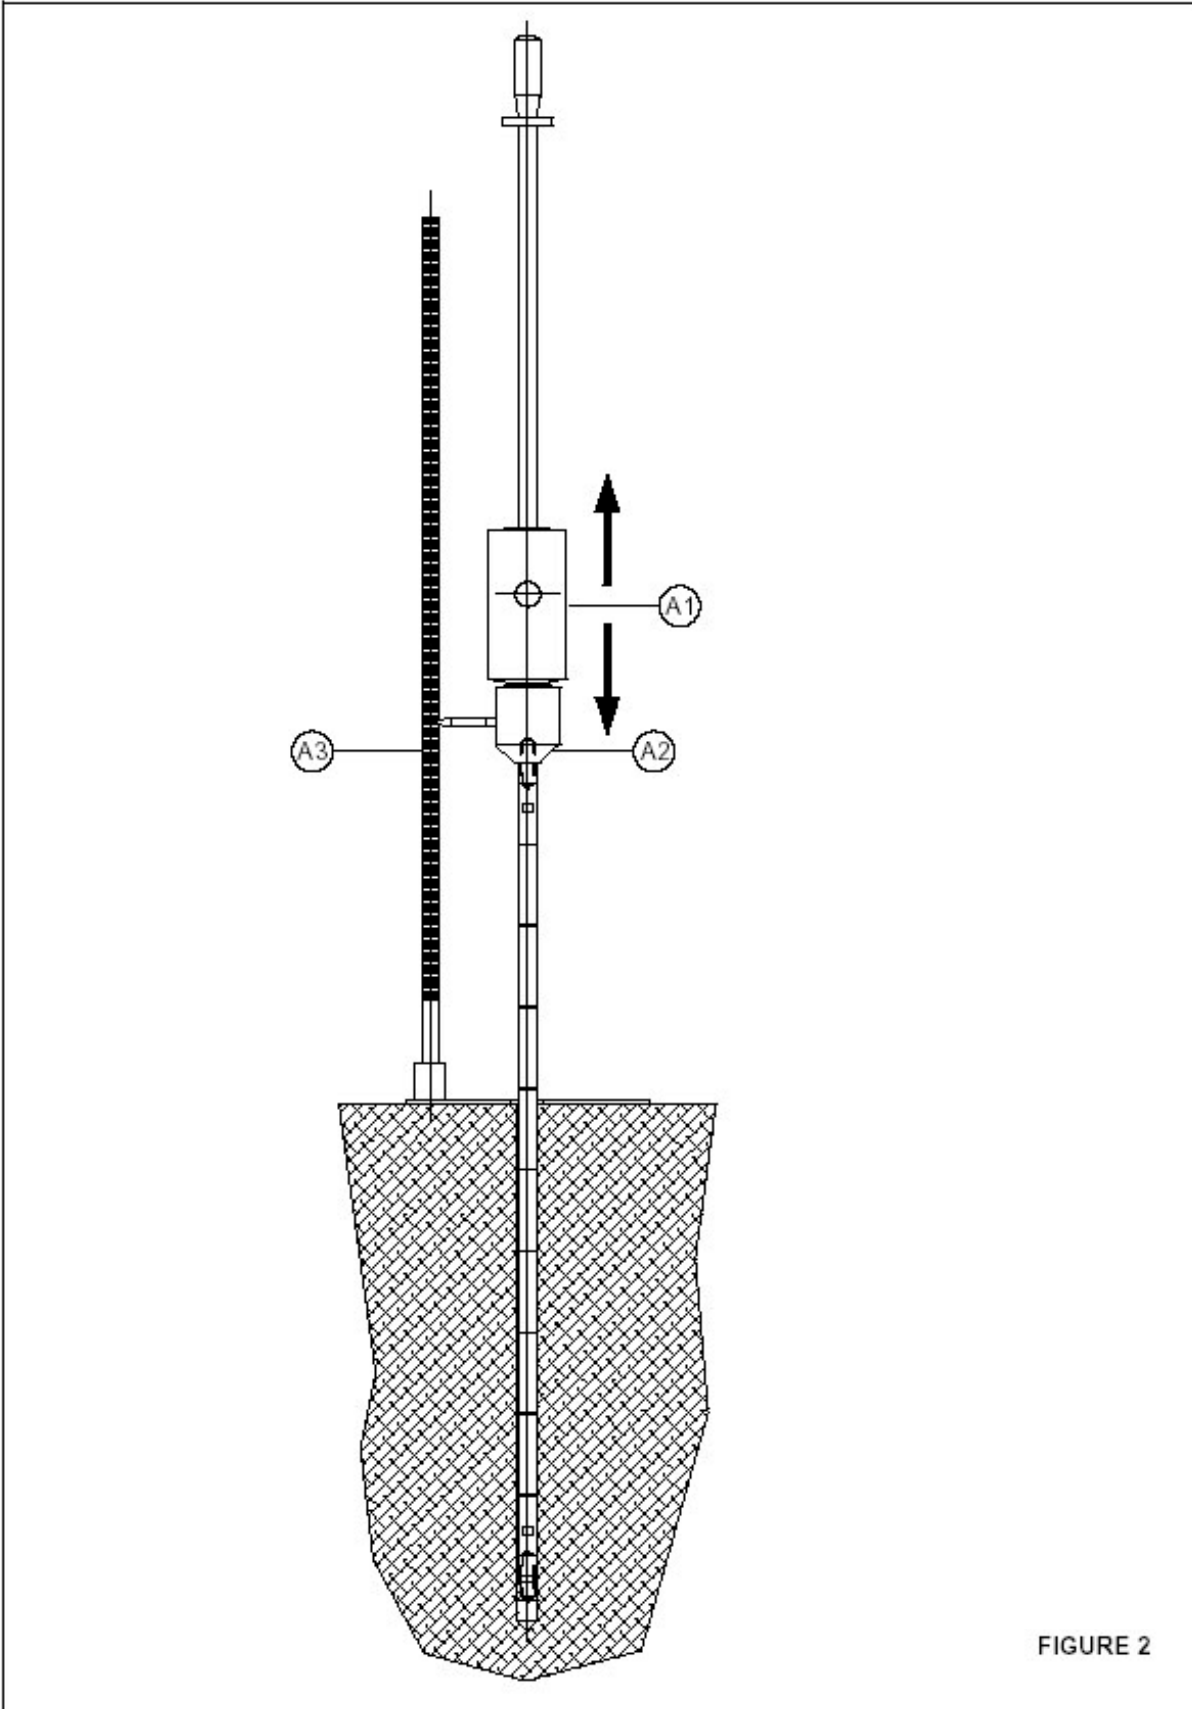

FIGURE 2
6. Mount on the corresponding guide rod on the drop rammer ( A1) ( FIG.2)